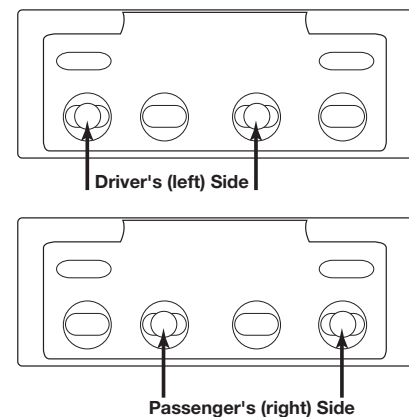

Fig. 15
- Center the upper bracket so the bolts are in the center of the slots (Fig. 15).